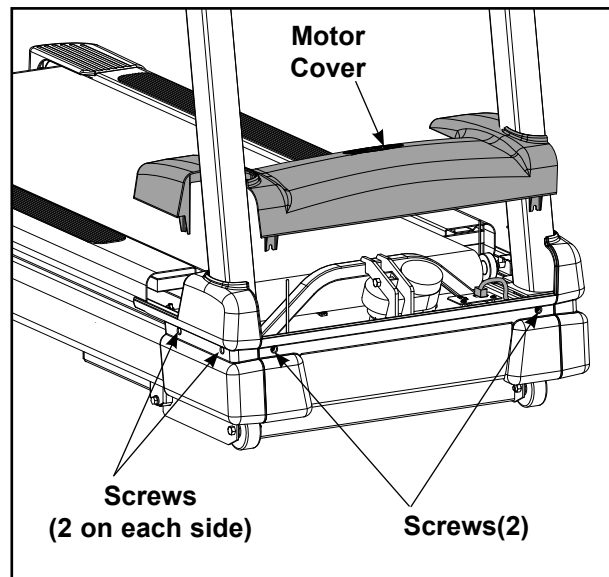

Figure 3
- A. Turn main power switch to off (O) position
- A. Using a Phillips screwdriver, loosen two screws on each motor cover side (left and right). See Figure 3.
- B. Using a Phillips screwdriver, loosen two screws on the front motor cover. See Figure 3.
- B. Turn the main power switch to the on (I) position.
- A. Lower the motor cover center into position. See Figure 3.